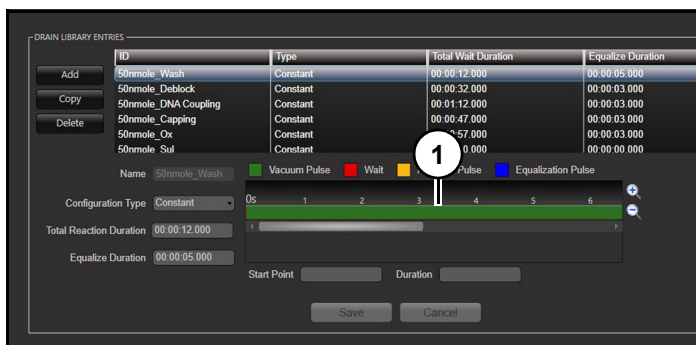

Figure 26
A constant vacuum pulse (1) (Figure 26) is a pulse that applies same length of vacuum to synthesis plate regardless of number of active columns. This is default vacuum setting when a new pulse is added to drain library and used most often. There is no compensation for dropped columns and is possible to find a good working range where dropouts do not negatively affect other columns.